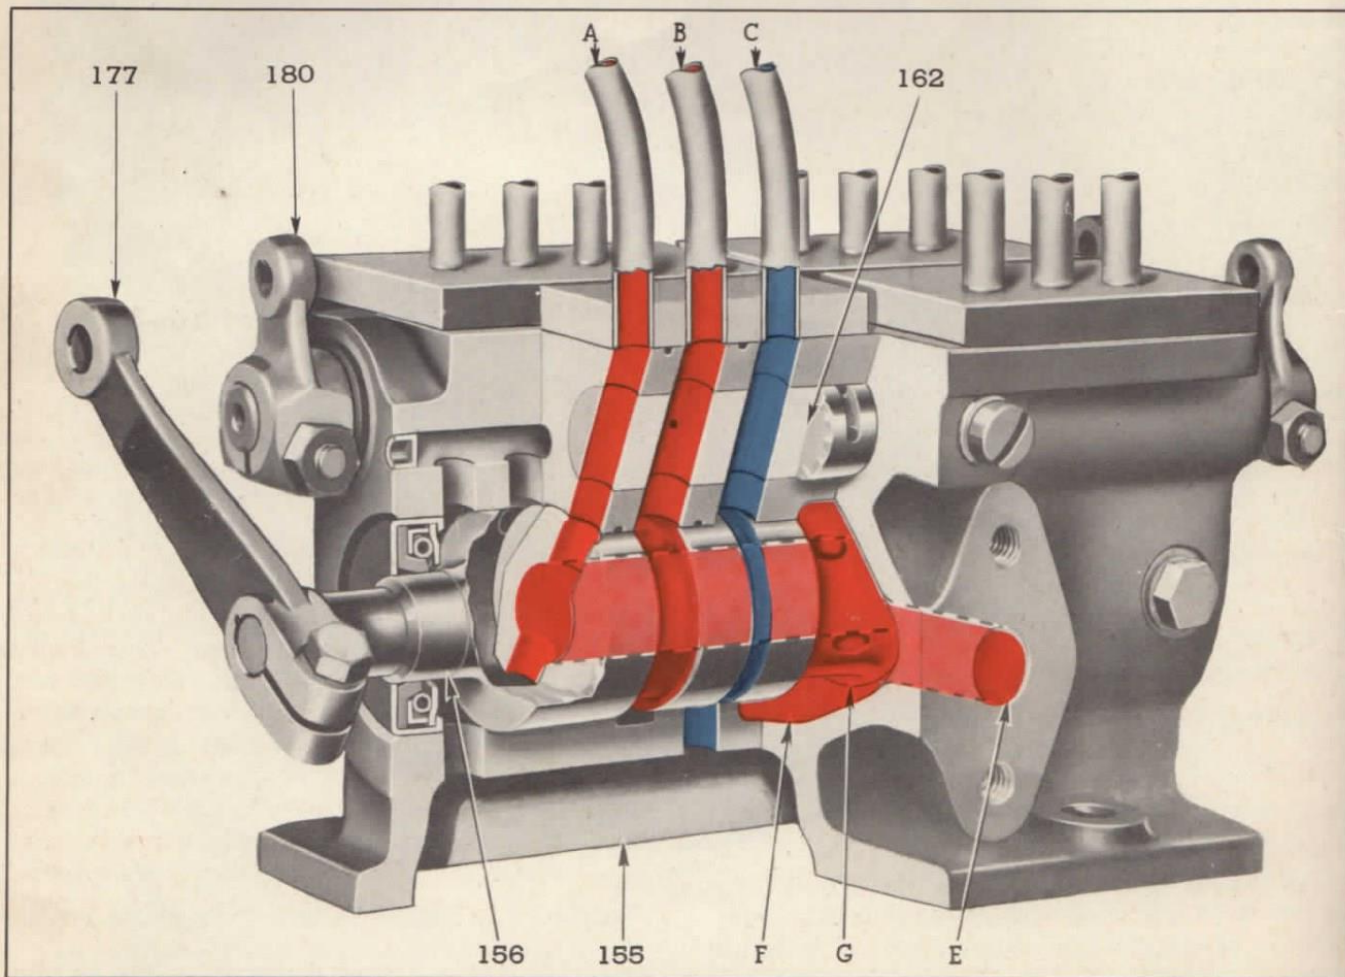

Fig. 17—Position of Selector and Shut-Off; Also Oil Flow Through Twin or Quad Control Valve for Forward Drive
tion (control lever (180) straight up) and selector valve (156) set for forward drive, as shown in Fig. 17, oil under pump pressure is admitted to the control valve at opening "E", then to a recess "F" in housing (155) registering with a recess "G" in the selector, thence inside the hollow selector. A cross bore in the selector valve (156) and one in the cut-off valve (162) registers with a passage in the housing to admit oil under pressure out through tube "A" and to the forward drive clutch.